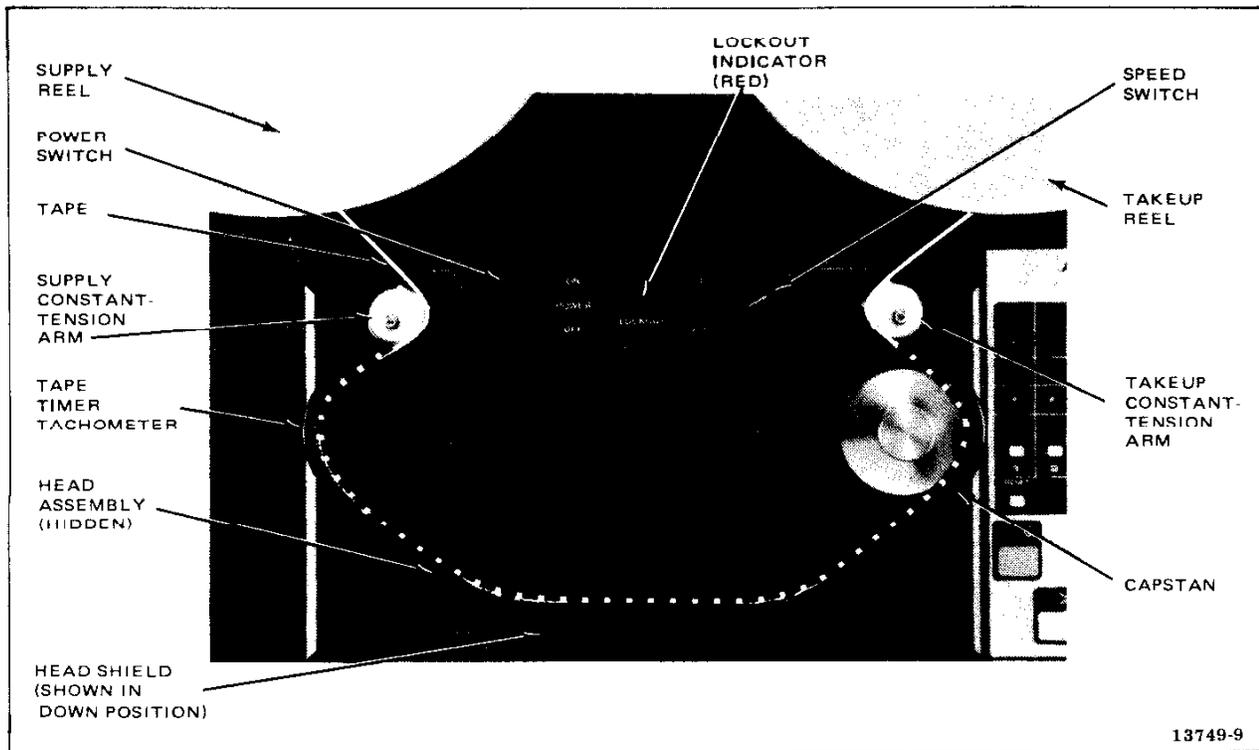

Figure 3-1. Tape Threading Path
6. Thread tape on transport as shown in Figure 3-1. The tape path is from the supply reel, around the inside of the supply constant-tension arm, around the tape timer wheel, across the head assembly, around the capstan, around the inside of the takeup constant-tension arm, and onto the takeup reel.